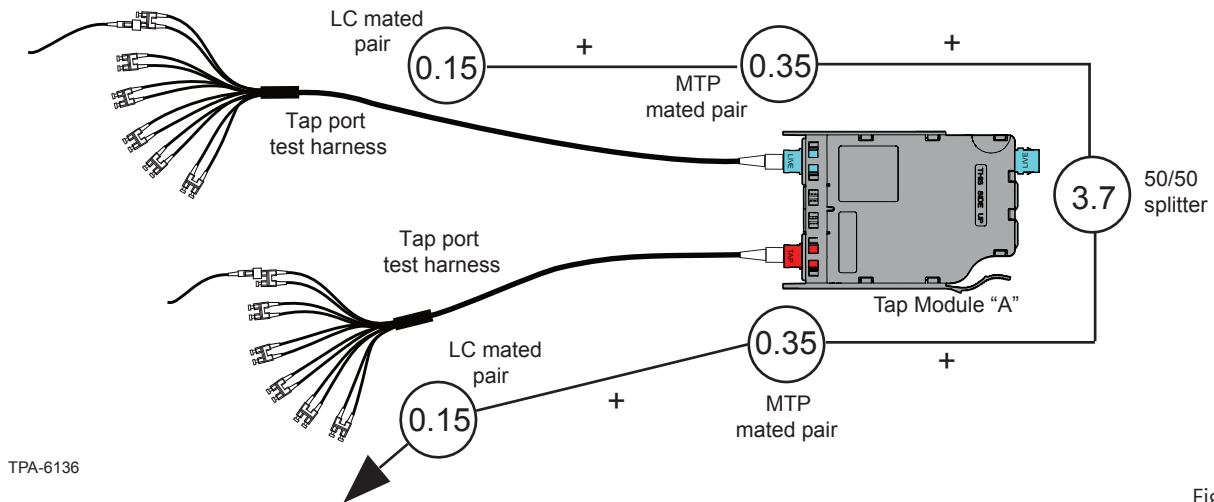

Figure 12
9.1 This section describes how to calculate the loss budgets of the TAP portions of a system using a EDGE MTP Tap Module and how to test that portion of the system. Note that you will need to calculate *two* loss budgets for the Tap portion system (Figures 12 and 13).
9.2. To calculate the system loss for the TAP system, add the loss values of the components that are in the system as illustrated in Figures 12 and 13.